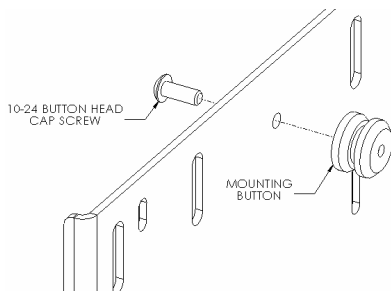
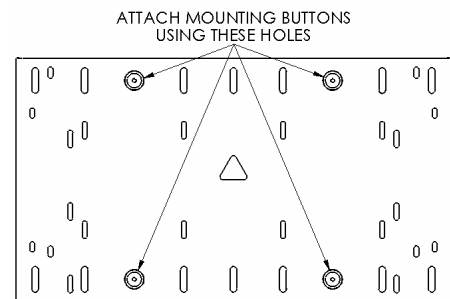

Figure 2
Figure 3
1. **Chief Q-latch Button Installation (Used with MSR, MTR, MWH, MWR, MCS and MCD mounts):** Using a 10-24 button head cap screw inserted from back side of bracket, secure mounting button, with chamfered hole of mounting button (larger surface) facing bracket, bracket (four places) (see Figure 2 & Figure3).